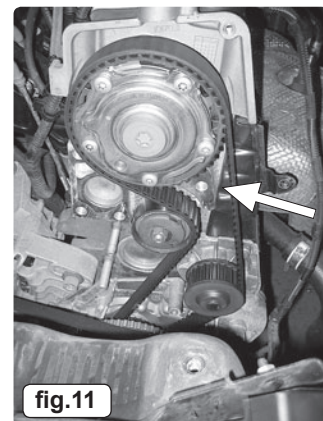

fig.11
- 3.3.9 **IMPORTANT:** Remove VS4953 Sprocket Locking Tool (fig.11).